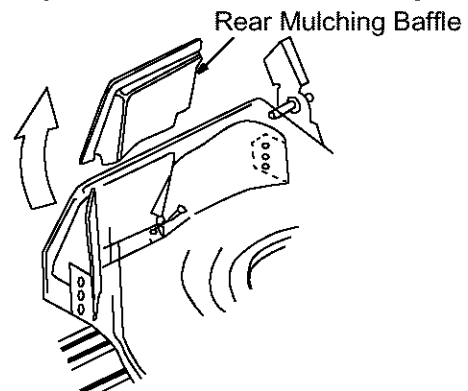

Figure 8
- Lift the rear discharge door and remove the rear mulching baffle from the mower. See Figure 8.